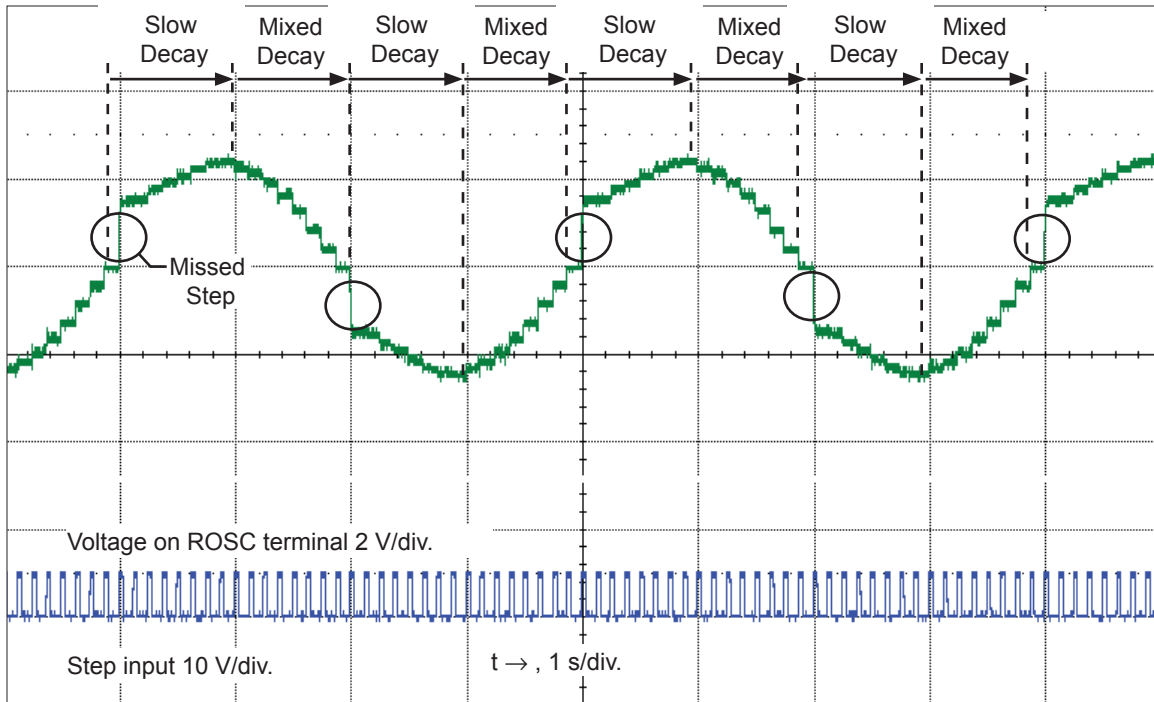
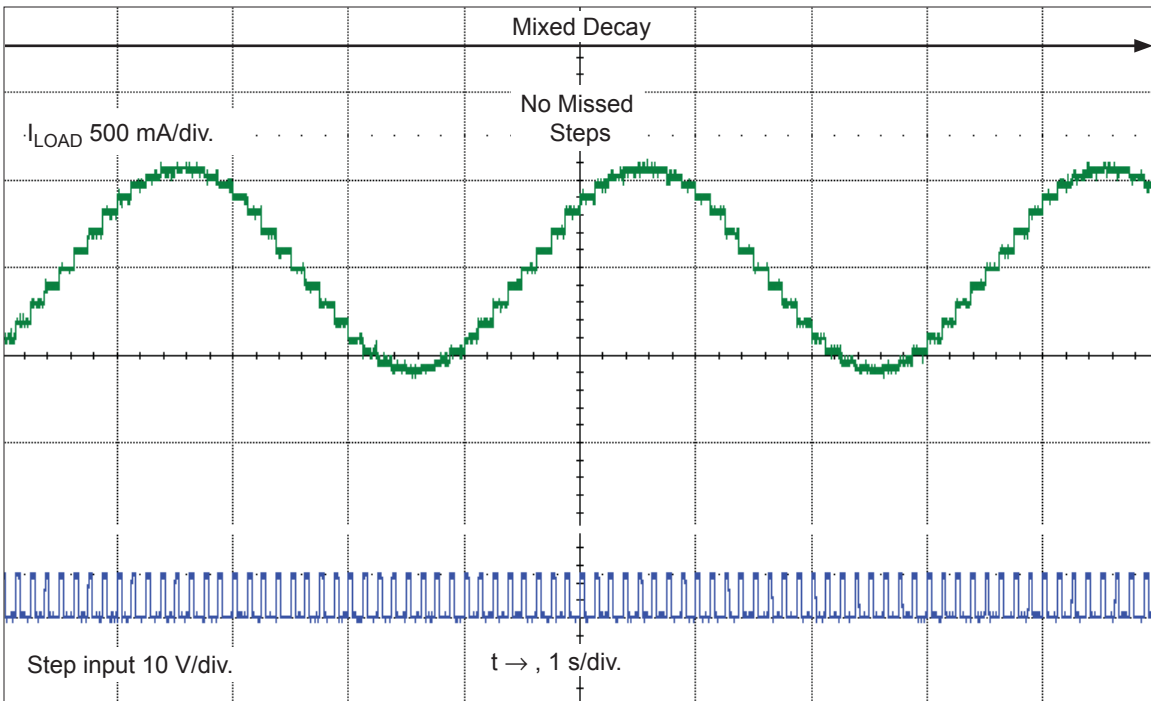

Figure 2. Missed steps in low-speed microstepping
Figure 3. Continuous stepping using automatically-selected mixed stepping (ROSC pin grounded)
**Mixed Decay Operation.** The bridge operates in Mixed decay mode, at power-on and reset, and during normal running according to the ROSC configuration and the step sequence, as shown in figures 3 through 6. During Mixed decay, when the trip point is reached, the A4982 initially goes into a fast decay mode for 31.25% of the off-time,  $t_{OFF}$ . After that, it switches to Slow decay mode for the remainder of  $t_{OFF}$ . A timing diagram for this feature appears in figure 7.
Typically, mixed decay is only necessary when the current in the winding is going from a higher value to a lower value as determined by the state of the translator. For most loads automatically-selected mixed decay is convenient because it minimizes ripple when the current is rising and prevents missed steps when the current is falling. For some applications where microstepping at very low speeds is necessary, the lack of back EMF in the winding causes the current to increase in the load quickly, resulting in missed steps. This is shown in figure 2. By pulling the ROSC pin to ground, mixed decay is set to be active 100% of the time, for both rising and falling currents, and prevents missed steps as shown in figure 3. If this is not an issue, it is recommended that automatically-selected mixed decay be used, because it will produce reduced ripple currents. Refer to the Fixed Off-Time section for details.